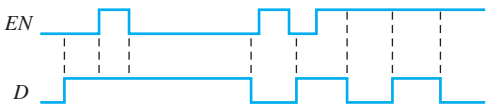

FIGURE 7-76
7. For a gated D latch, the waveforms shown in Figure 7-76 are observed on its inputs. Draw the timing diagram showing the output waveform you would expect to see at Q if the latch is initially RESET.